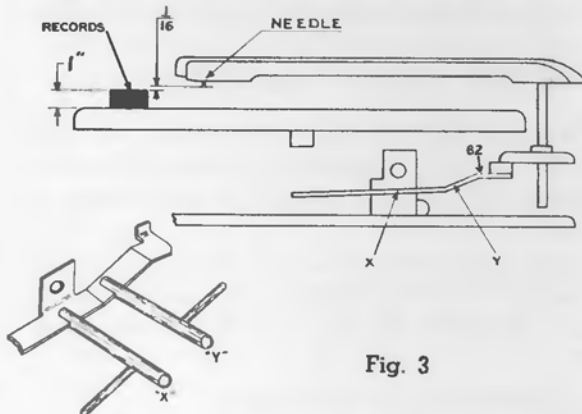

Fig. 3
The vertical movement of the pickup arm is controlled by the angle of the pickup arm raising lever (62 and Fig. 3). The needle should approach the top record of a full 1" stack of records on the turntable with approximately $\frac{1}{16}$ " clearance.
4. If the needle does not clear the top record or if it raises too high, adjust by holding the pickup arm raising lever (62) at point X and bending at Y as indicated in Fig. 3.